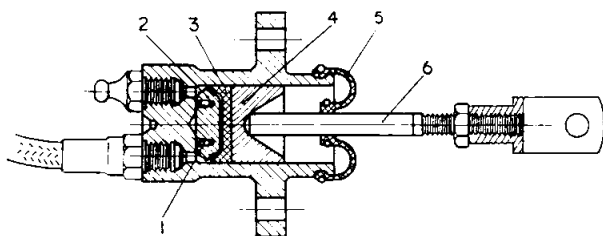

Fig. 4 Sectional View of Slave Cylinder. 1 Spring. 2 Cup Filler. 3 Rubber Cup. 4 Piston. 5 Rubber Boot. 6 Fork assembly.
20. DISMANTLING THE SLAVE CYLINDER (Fig. 4)